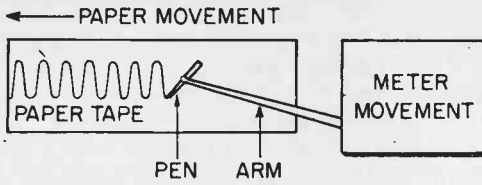

Fig. 11. The oscillograph is an electro-mechanical device that places an inked trace on a moving strip of paper.
**At the Beginning.** The forerunner of the oscilloscope was the *oscillograph*. In a very simple oscillograph, a paper tape moves at a steady speed and a pen writes on it as its arm is moved by a meter movement, as shown in Fig. 11. The swing of the pen, as indicated by the trace it writes, is determined by the level of the voltage being measured; time is measured by the speed of the paper tape travel. Obviously, such an instrument cannot be used to examine high frequency signals because of the slow tape speed and the inertia of the pen mechanism.